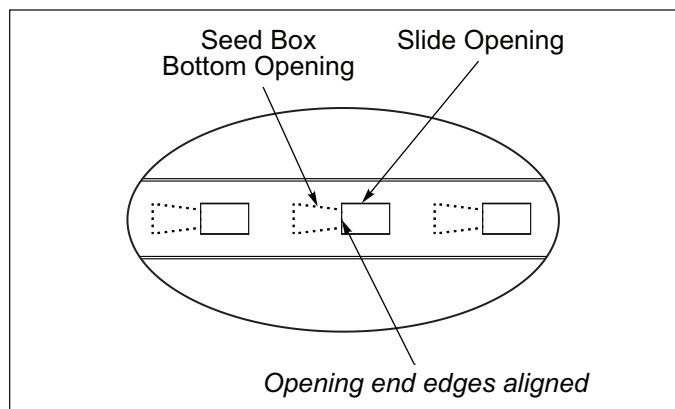

Figure 4-4: Shifter Handle Set at “0”
- When the Shifter Handle is set to “0” (closed), the Seed Box bottom opening end edge is aligned with the Slide opening end edge. **See Figure 4-4.**